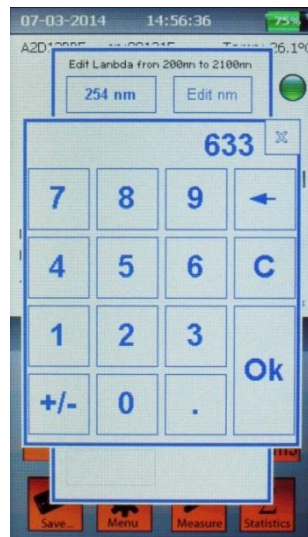

Figure 4
c) Select a lambda from the list, or touch "edit nm" to input the wavelength you need (Figure 4). The wavelength must be within the available range, that is shown on top of the wavelength menu.